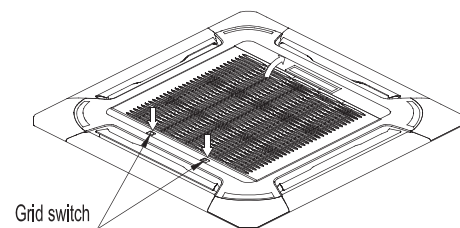

Fig.5-7
- Slide two grill switches toward the middle at the same time, and then pull them up. (Refer to Fig.5-7)